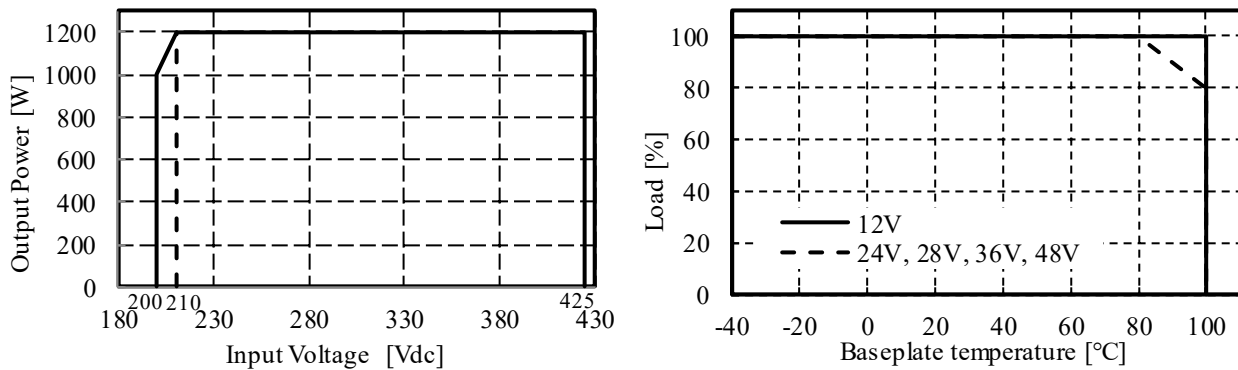

Fig.7-24 Derating Curve
2. There is limitation on input voltage range and baseplate temperature range for as shown in Fig 7-24.